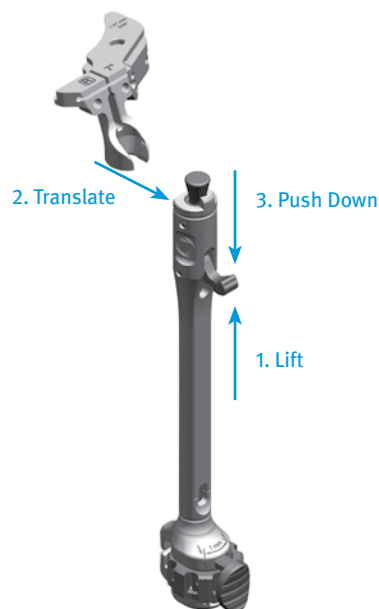

Fig. 17
- Attach the selected tibial cut guide to the EM Alignment Guide (Fig. 17).